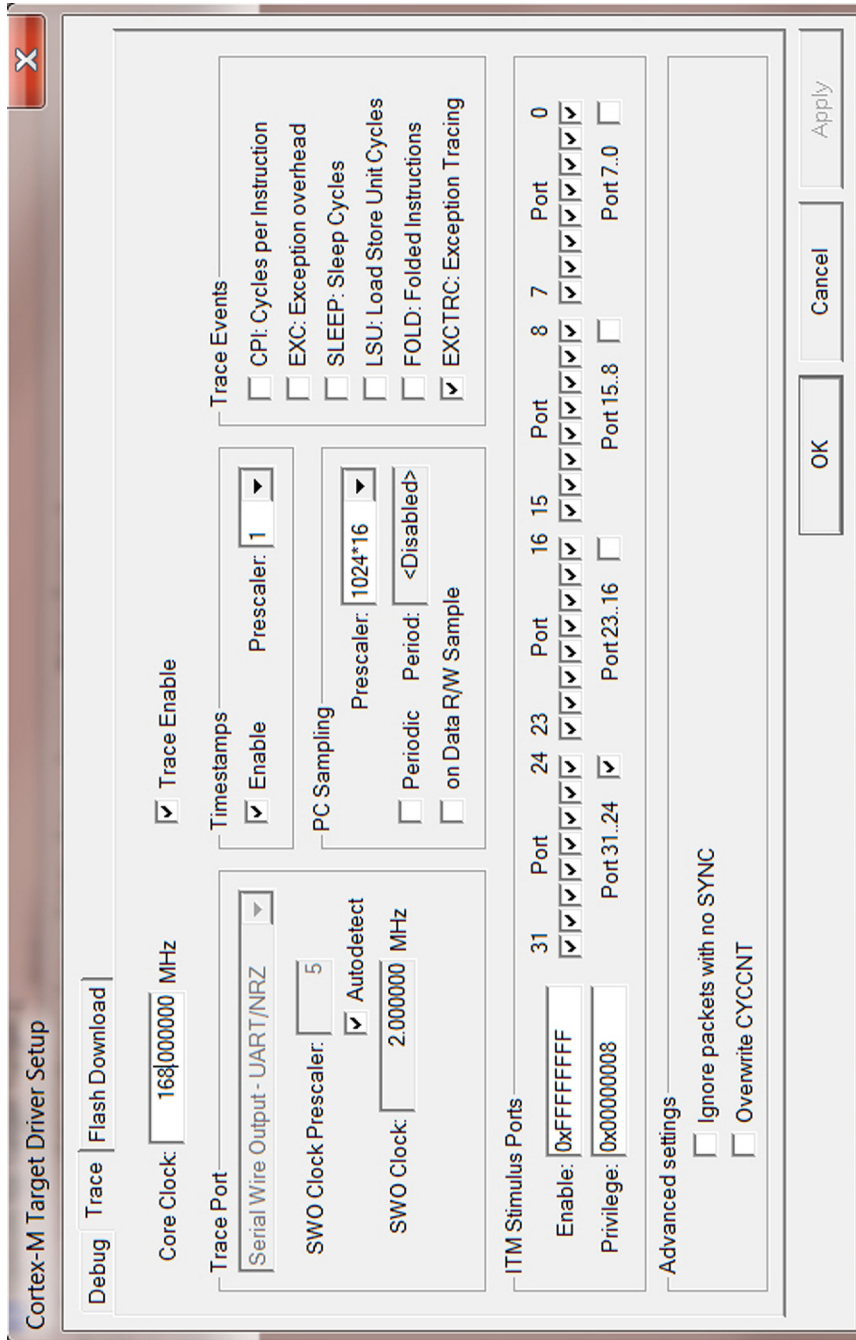

FIGURE 15.28
- Trace (see Figure 15.28)
If you are planning to use the trace feature (e.g., using Serial Wire Viewer for printf message display, which is covered in Chapter 18, section 18.2), then you need to set up the trace options here, (Figure 15.28) such as the clock frequency. In addition, you can optionally enable “Trace Events” for additional profiling information.